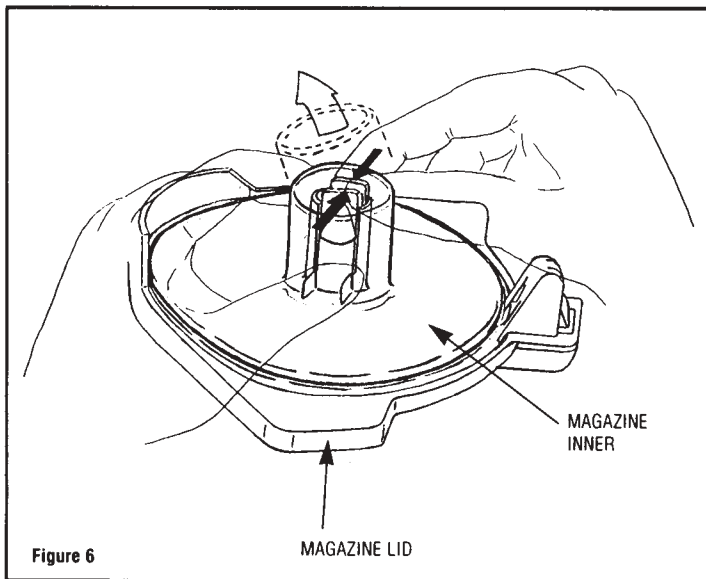
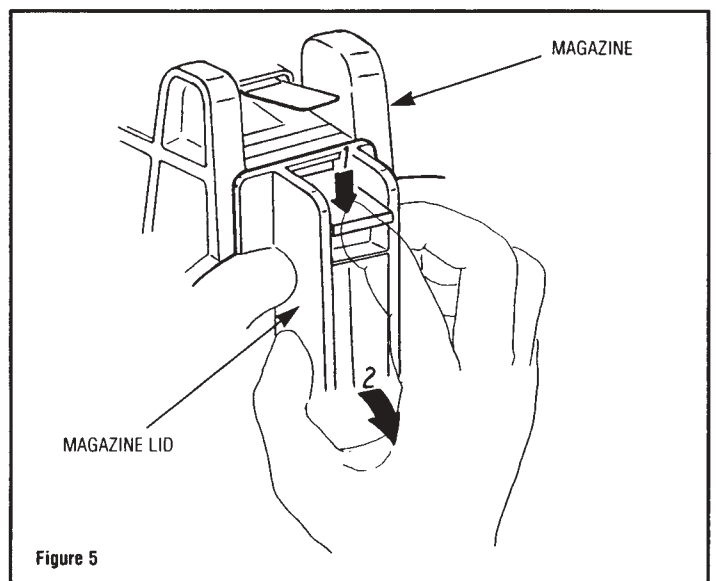

Figure 6
Figure 5
**(c) Magazine Inner Adjustment** - The magazine inner must be adjusted depending upon the length of fastener to be driven. To make this adjustment open the magazine cover by pulling the latch as in figure 5. To remove the inner magazine simply depress the two tabs together and lift as in figure 6. This figure shows the proper